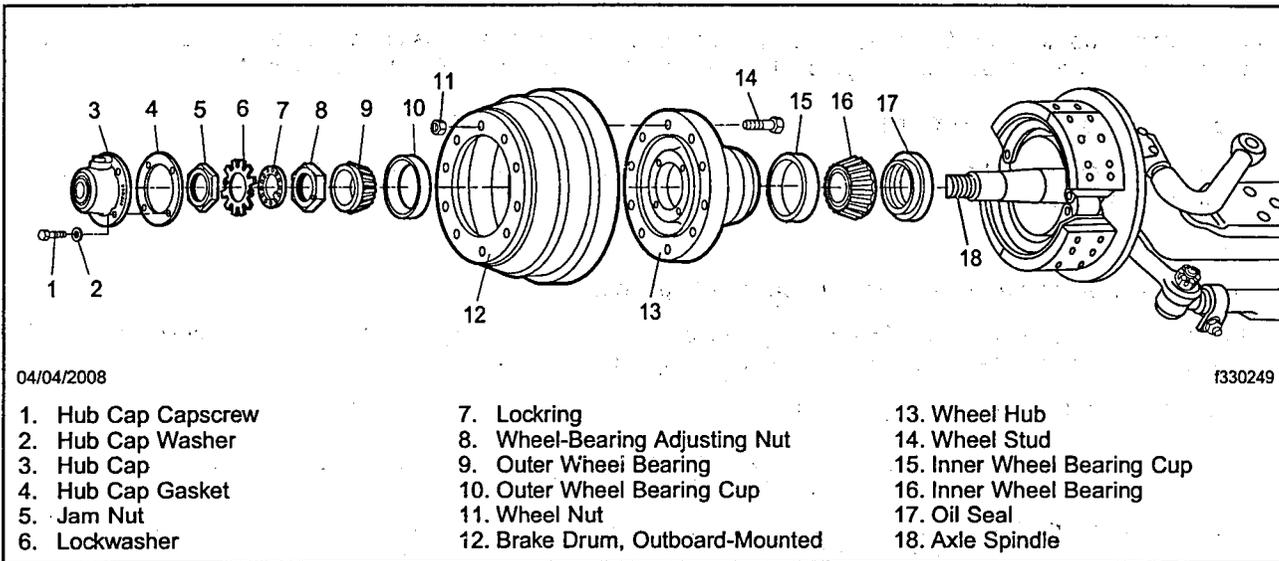
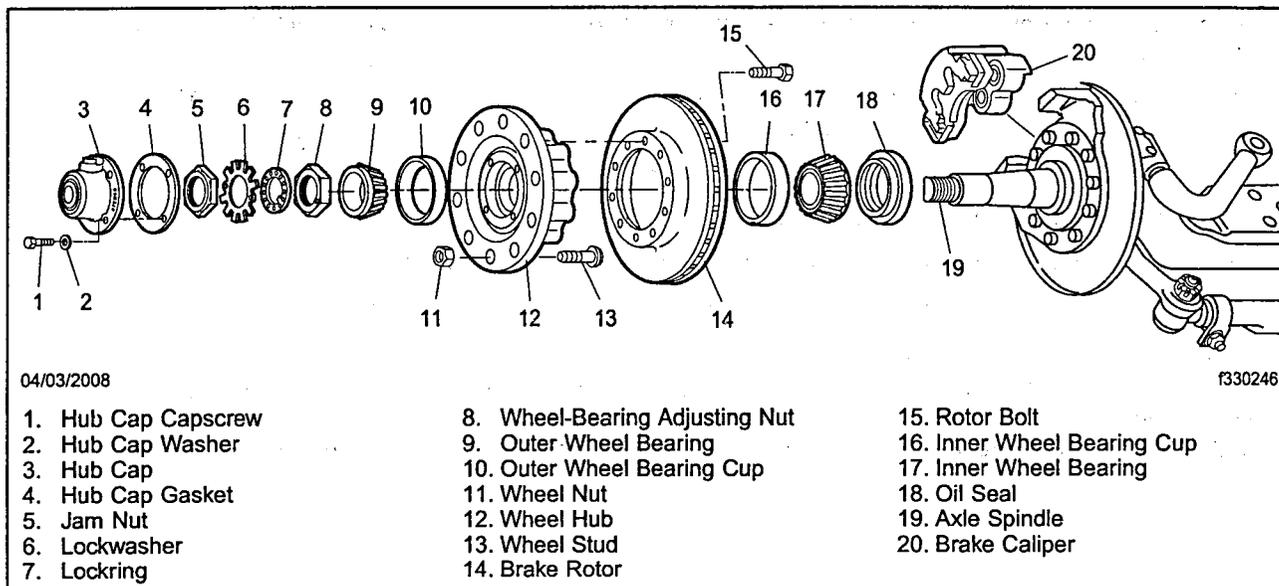

Fig. 1, Front Axle Assembly, Drum Brakes (New Spindle Nut Set Shown)
Fig. 2, Front Axle Assembly, Disc Brakes (New Spindle Nut Set Shown)
5. Remove the jam nut, lockwasher, lockring, and wheel-bearing adjusting nut. See **Fig. 1** and **Fig. 2** for assembly diagrams.